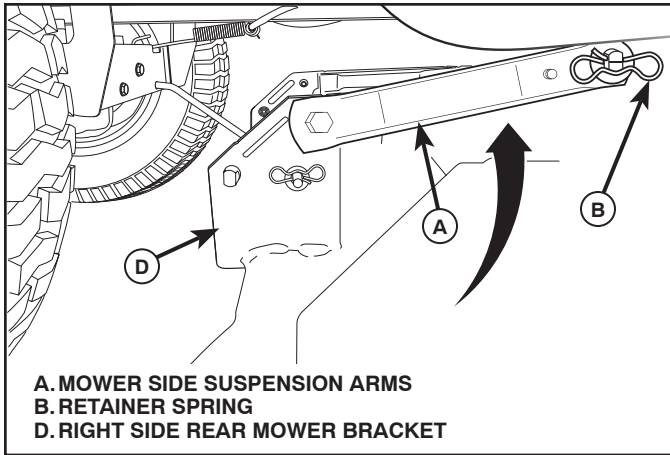

Fig. 29
## 6. ATTACH MOWER SIDE SUSPENSION ARMS (A) TO CHASSIS (See Fig. 29)
- Position front hole in side suspension arm (A) over pin on outside of tractor chassis and secure with large washer and large retainer spring (B).